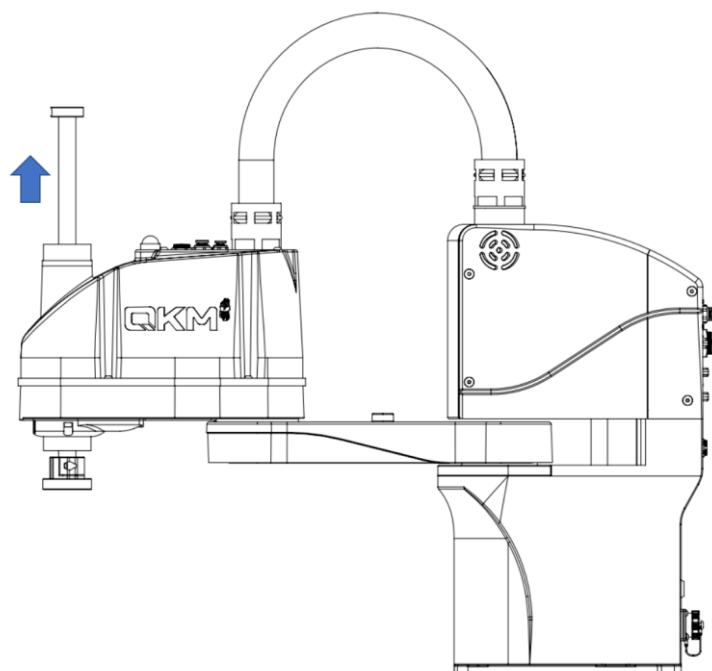

Figure 4-4 Push up spline screw shaft
**Step 3** Press and hold the brake button and push the spline screw shaft up to the top as shown in Figure 4-4.